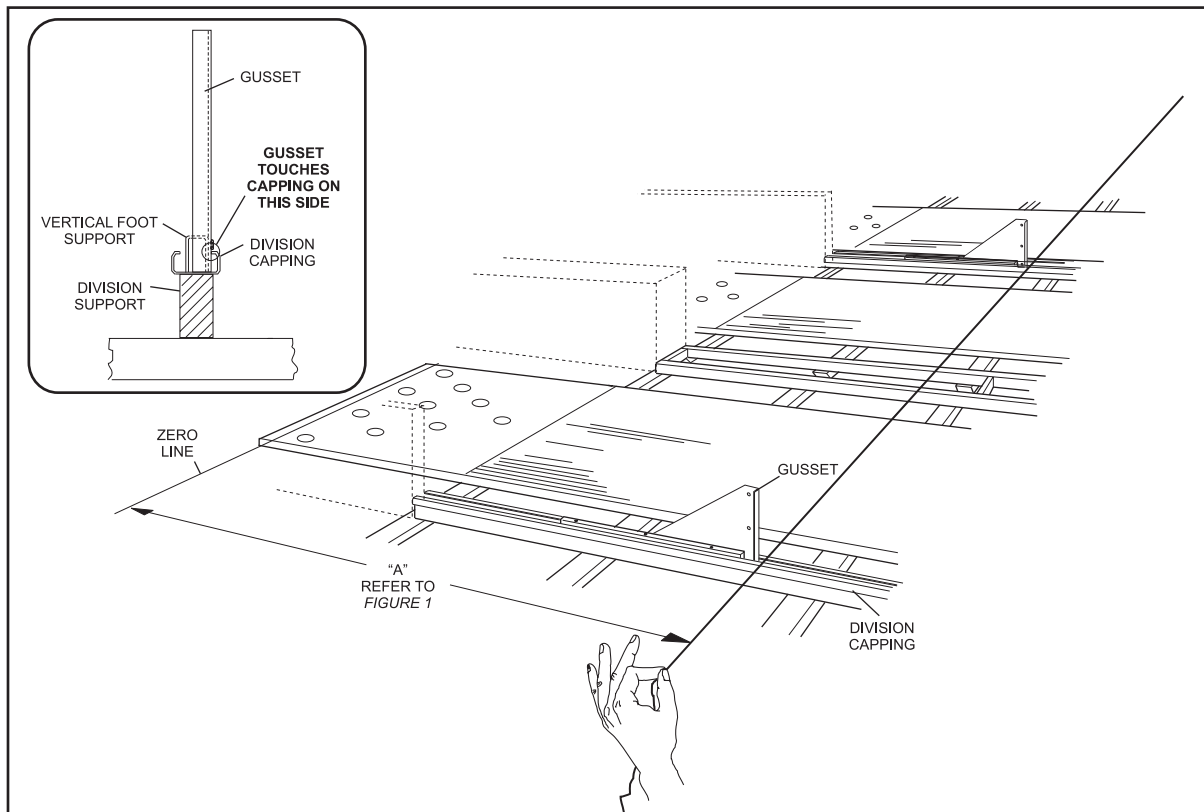

Figure 3
1. Align assembled gusset with previously snapped chalk line on division capping. Refer to *Figure 3*.
2. Butt right side of gusset up to the inside edge of the capping. Refer to *Figure 3*.